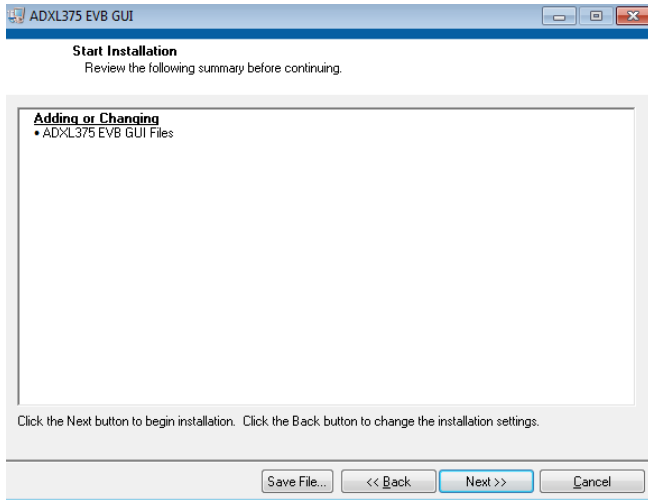

Figure 12. ADXL375 EVB GUI Start Installation (Listing Varies Based on PC Requirements)
3. Read the license agreement before accepting it; then, click **Next**. The installer lists the required components to install on your PC (see Figure 12).